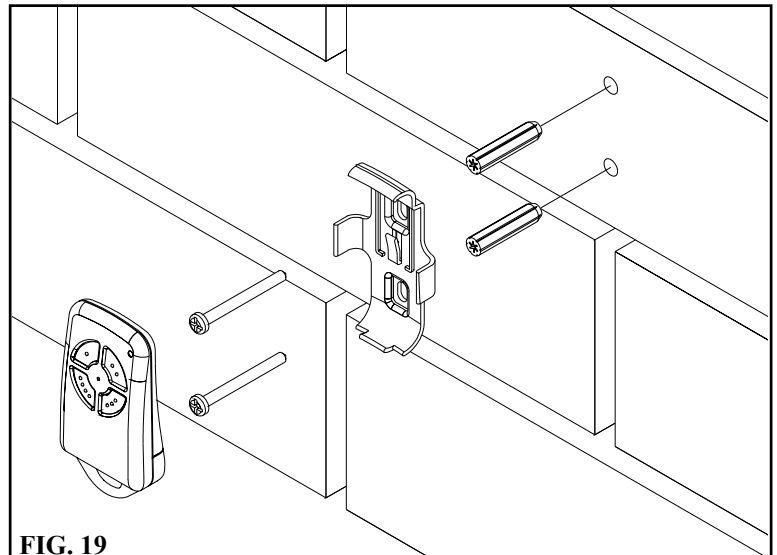

FIG. 19
1. Press in together and hold the Auto Close Time button 5 and Force Margin Set button 14. (FIG. 19)
2. While holding in the two buttons, press the green Open button 11. (FIG. 19) Each press of this button will add 10 seconds to the light time.
3. To decrease the time follow step 1 and press the red Close button 3. (FIG. 19) Each press will deduct 10 seconds from the light time.
1. Mount the holder in a location out of reach of children and convenient to the customer. (FIG. 19)